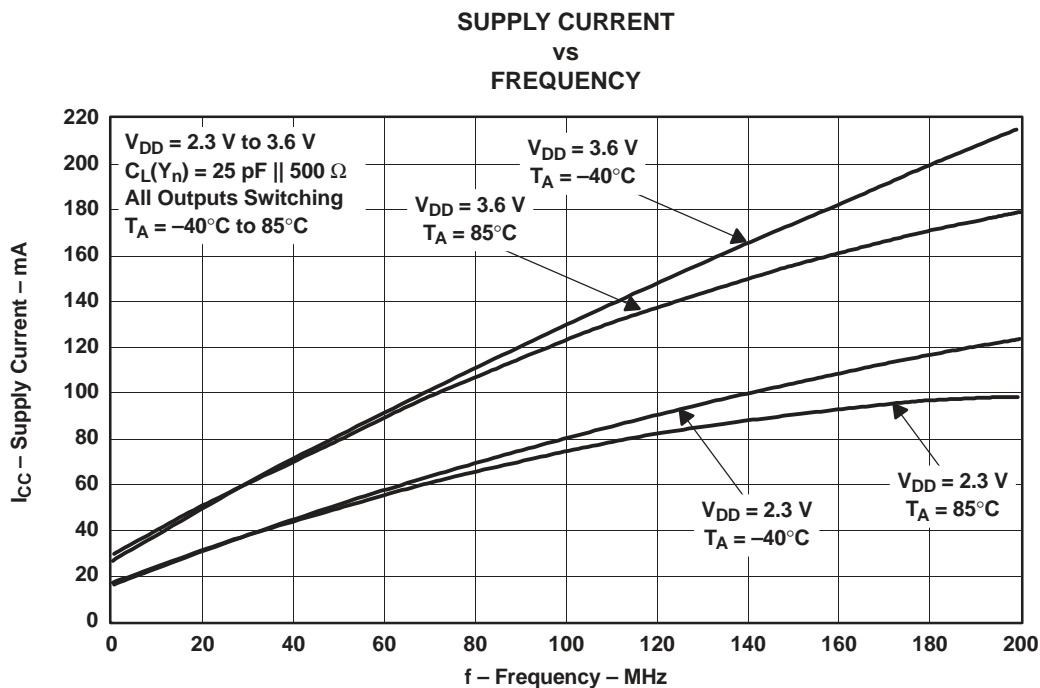

Figure 6.
(1) All typical values are at respective nominal V_{DD}.
(2) For I_{CC} over frequency, see Figure 6.